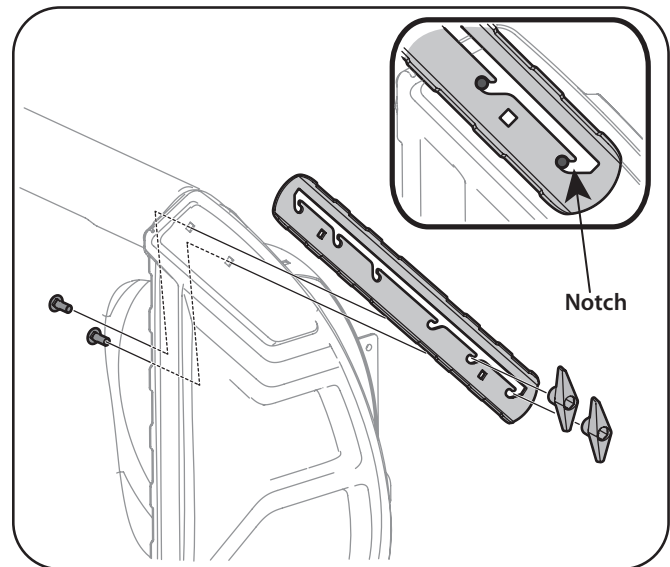

Figure 3-13
Drift cutters and hardware are assembled at the factory for shipping purposes. Assemble the drift cutters as shown in Figure 3-13 prior to operating your snow thrower.
2. Reposition the drift cutters to the housing with the notches facing to the front of the unit as shown in Figure 3-13. Secure with hardware previously removed. Bolts should be on the inside of the housing and seated in the notches of the drift cutter, see inset Figure 3-13. Tighten wingnuts.